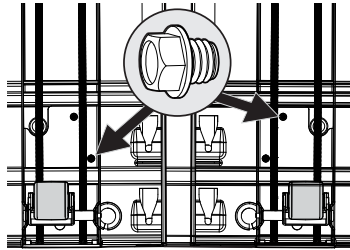

Fig. 4
- b. Using a 5H bolt and a power drill, fasten the bottom of the Leveler Assembly with a  $\frac{5}{8}$ " hex drill bit in whichever hole overlaps the screw hole (Fig. 4).